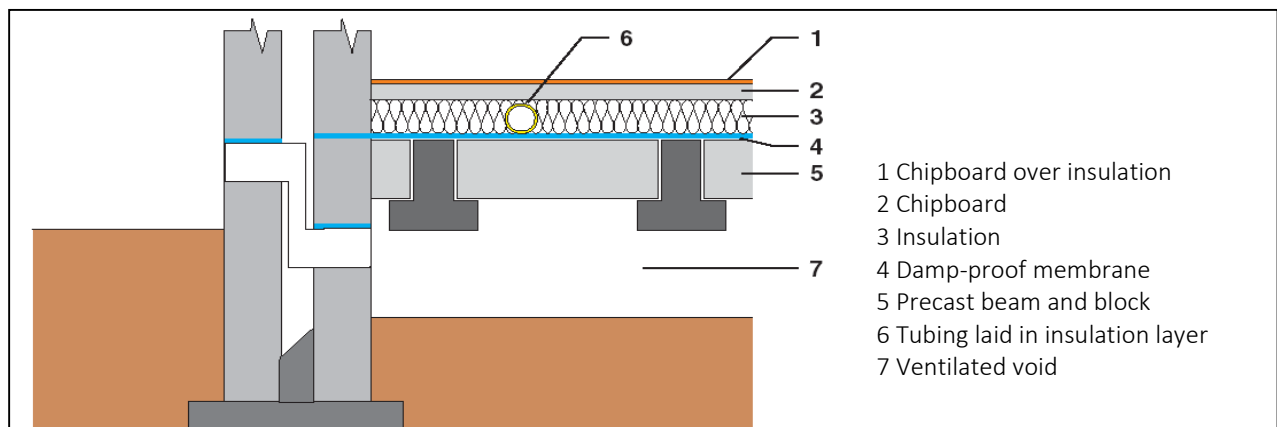

Figure 11: Suspended concrete floor
- a suspended concrete floor (Figure 11)